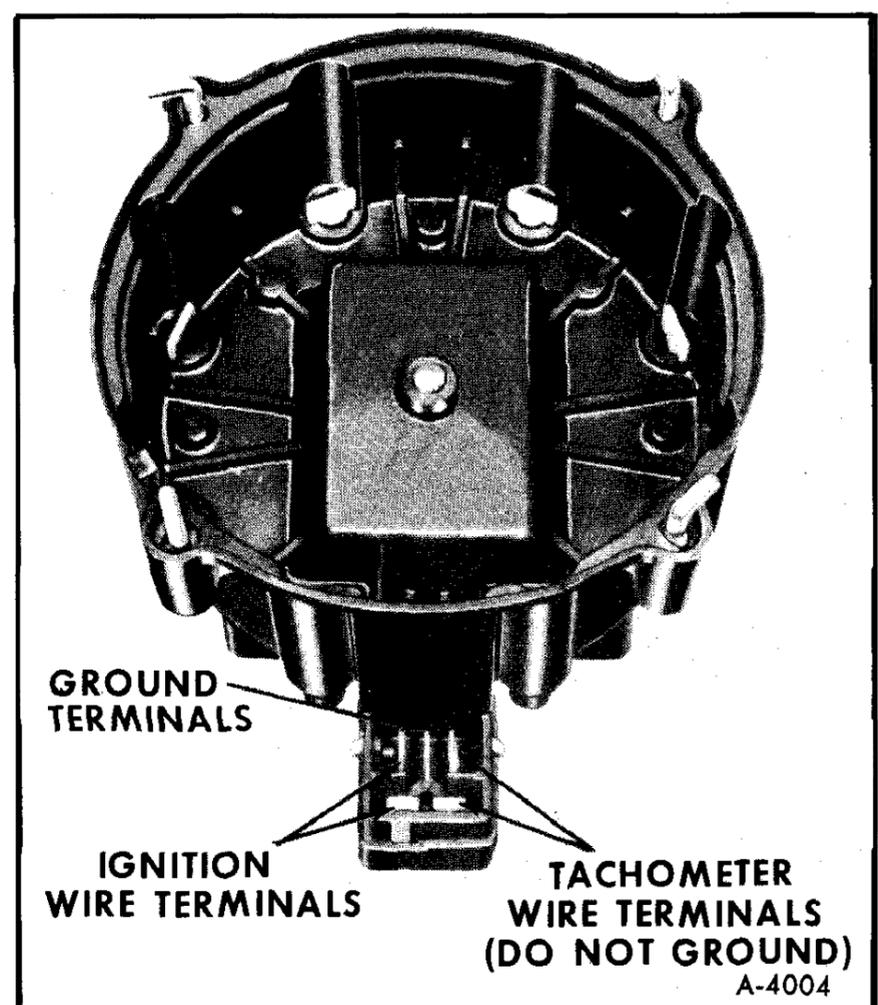

Figure 5—Terminals on Distributor Cap
3. Connect voltmeter or test light from "BAT" terminal lead on distributor to ground (figure 5).